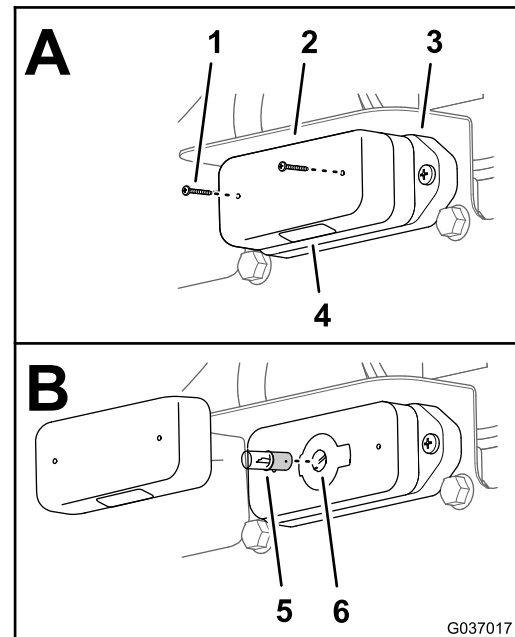

Figure 71
1. Remove the 2 screws that secure the cover to the base of the license-plate light, and remove the cover (A of Figure 71).
2. Push down the bulb slightly and rotate it counterclockwise until it is unlocked from the light socket, and remove the bulb (B of Figure 71).
3. Insert the new light bulb into the bulb socket (B of Figure 71).
4. Press down the bulb slightly and rotate it clockwise until the bulb locks into the socket (B of Figure 71).
5. Align the cover to the base of the license-plate light with the lens down (A of Figure 71).